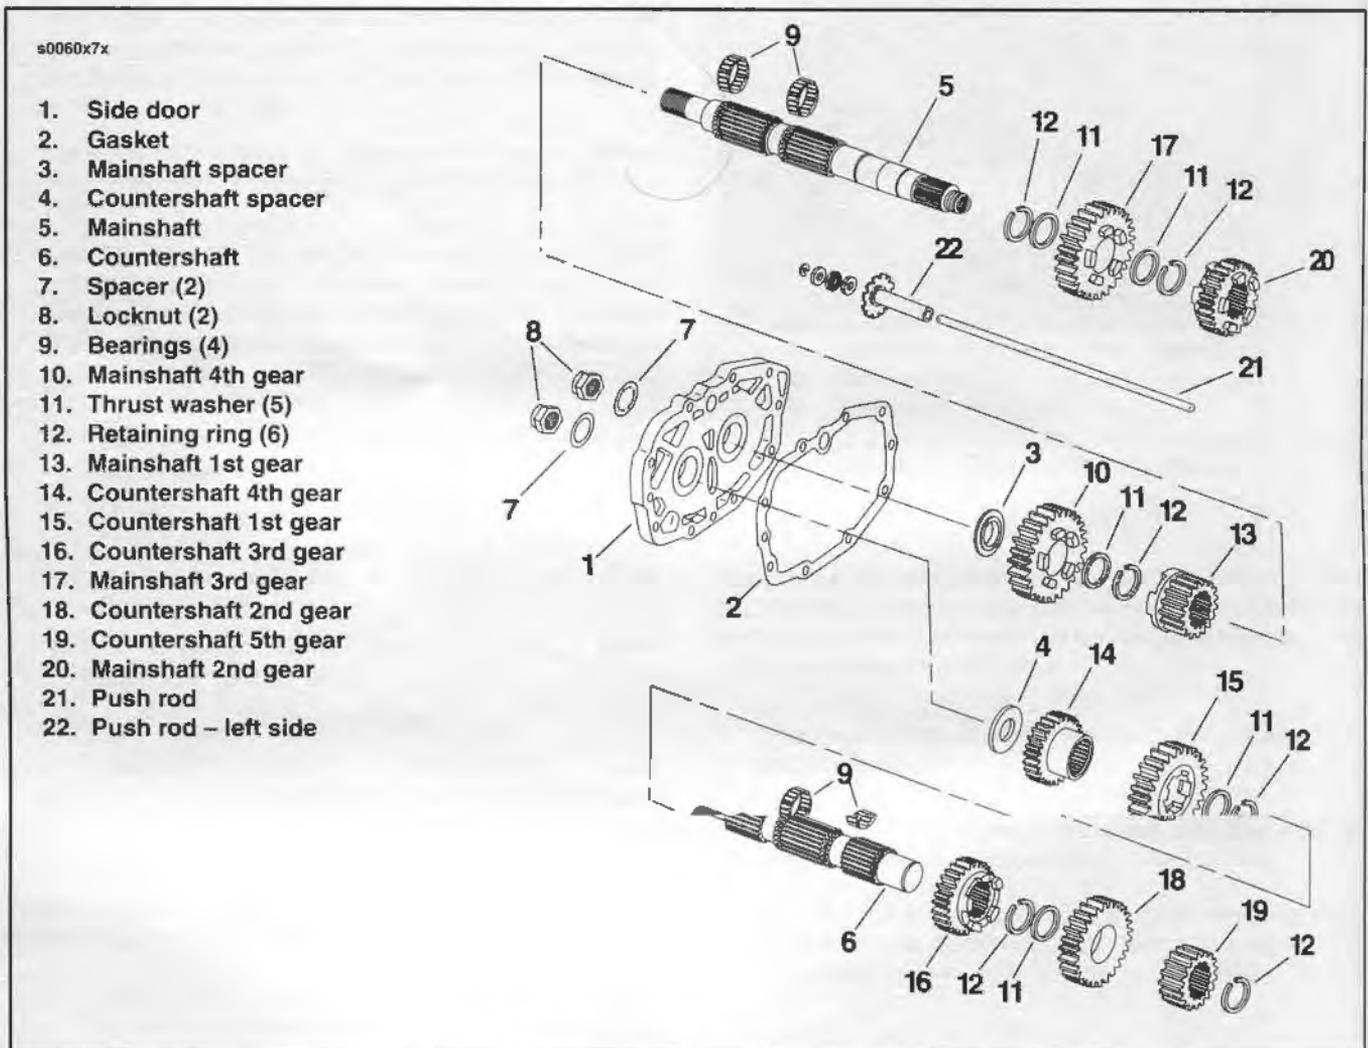

Figure 7-18. Mainshaft, Countershaft Assembly
8. See Figure 7-18. Remove the locknuts (8) and spacers (7) from the shafts.
2. See Figure 7-18. Install the assembly in the transmission case using a **new** gasket (2). Tighten 5/16 in. mounting hardware to 13-16 ft-lbs (18-22 Nm) and 1/4 in. screws to 7-9 ft-lbs (9-12 Nm).
5. See Figure 7-18. Install 2-piece push rod (21 and 22) in mainshaft hole.
1. See Figure 7-18. Remove the 2-piece push rod (21 and 22) from the hole in the mainshaft. Use RETAINING RING PLIERS, Part No. J-5586, to remove all retaining rings (12).
2. With access door on end (shafts pointing upward), remove the retaining ring (12) from the countershaft (6). Remove the countershaft 5th gear (19) and countershaft 2nd gear (18).
3. Remove the bearings (9), retaining ring (12) and countershaft 3rd gear (16).
4. Remove mainshaft 2nd gear (20) and leave 4th and 1st gear respectively on each shaft.
5. Remove the upper retaining ring, thrust washer (11), mainshaft 3rd gear (17), bearings and retaining ring.
1. See Figures 7-18 and 7-20. Slip thrust washers (11) and retaining rings (12) on mainshaft and countershaft. Slip mainshaft 4th gear on mainshaft and countershaft 1st gear on countershaft.
2. Lightly coat bearings (9) with oil and install the bearings on the mainshaft (5) bottom race. Slide mainshaft 4th gear (10) over the bearings. Install one thrust washer
(11) on top of the gear and secure with a retaining ring (12). Install mainshaft 1st gear (13) with the shifter fork slot facing the side door.
6. See Figures 7-18 and 7-21. Place side door (1) in an arbor press. Support inner bearing races with a suitable socket. Press the shafts into the bearings. With the shafts properly pressed into the side door, spacers (3 and 4) will have no end play. The mainshaft (5) is installed to the left of the transmission top cover access cover hole when viewing the side door from the top.
7. Install one spacer (7) and nut (8) on each shaft and tighten the nuts finger tight. Do not tighten at this time. See REMOVAL/INSTALLATION.
8. Install a retaining ring (12) in the mainshaft groove just above 1st gear. Insert a thrust washer (11) on top of the retaining ring and place the bearings into the mainshaft race.
9. Place mainshaft 3rd gear (17) over bearings and secure 3rd gear with a thrust washer (11) and retaining ring (12).
10. See Figures 7-18 and 7-22. Install the mainshaft 2nd gear (20) on the shaft with the shifter fork slot towards the side door.
11. See Figures 7-18 and 7-23. Install countershaft 3rd gear (16) with shifter fork slot facing away from the side door.
12. Install a retaining ring (12) in the countershaft groove above 3rd gear (16). Slide a thrust washer (11) on top of the ring and place the bearings in the countershaft race.
13. See Figures 7-18 and 7-24. Install the countershaft 2nd gear (18) over the bearings.
14. Install the countershaft 5th gear (19) on the countershaft. Secure 5th gear with a retaining ring.